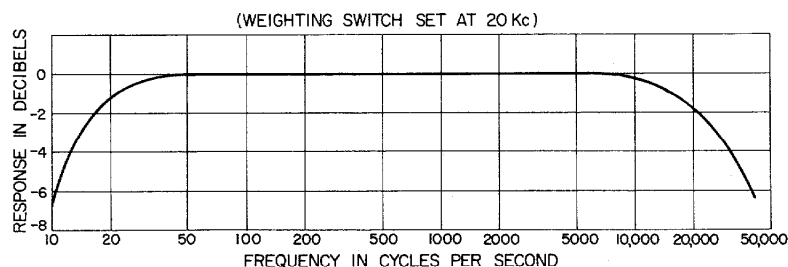

Figure 4.
2.6 WIDE - RANGE MICROPHONES. The over-all frequency response characteristic of the Type 1551-C, with the WEIGHTING switch set at 20 kc, is essentially flat from 20 cps to 20 kc. (See Figure 4.) This permits use of such wide-range microphones as those used in the Types 1551-P1L and 1551-P1H Condenser Microphone Systems.